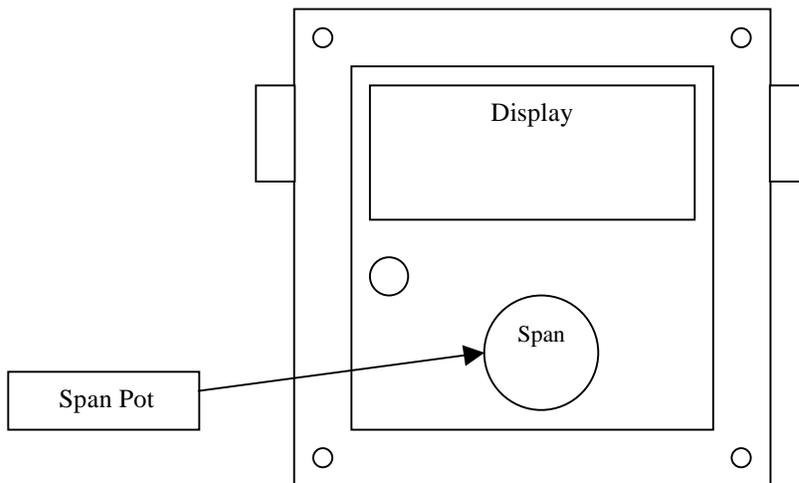

Figure 3-6: Span Pot Location
2. If 90 ppm gas is used, adjust the span pot (Figure 3-6) to read 90.0 ppm on the LCD display. The output to the Elsag Baily Total Flow™ computer will have a signal of 4.6VDC (into a >10K ohm load).